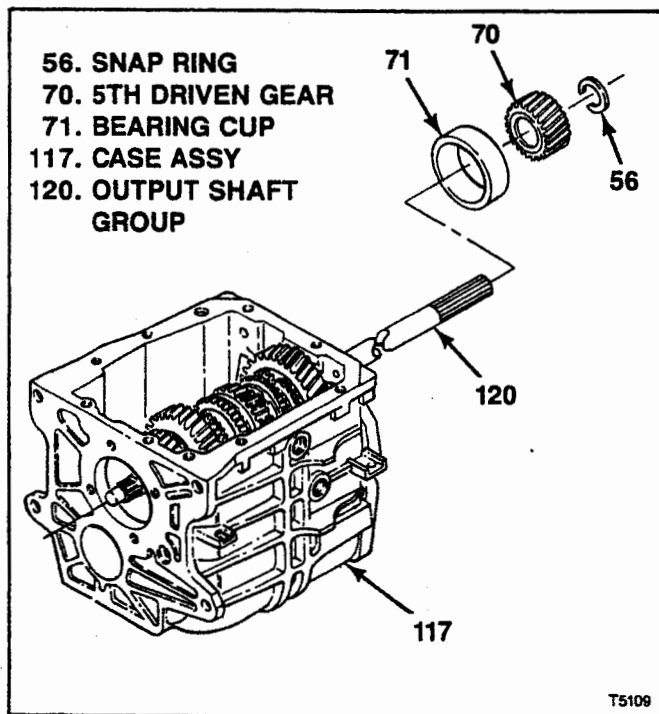

Figure 6-10. Installation of T5 WC Output Shaft Group
6-12. INSTALLATION OF T5 WC OUTPUT SHAFT GROUP. After assembly of output shaft group (120) (paragraph 6-11), install as follows (see figure 6-10):
a. Tilt rear end of output shaft group (120) down and install through top opening and out rear of transmission case (117). Rest output shaft group on countershaft previously installed.
b. At rear of transmission case (117), install bearing cup (71), 5th driven gear (70) and one snap ring (56).